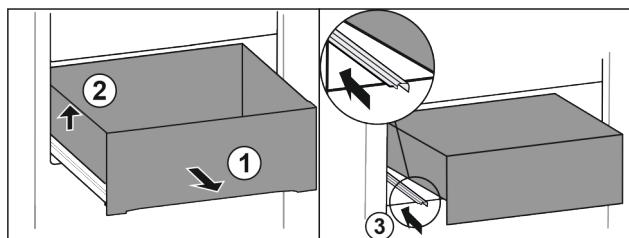

Fig. 86
- Pull out drawer as far as it will go. Fig. 86 (1)
- Lift drawer on the left. Fig. 86 (2)
- Slide in left rail. Fig. 86 (3)